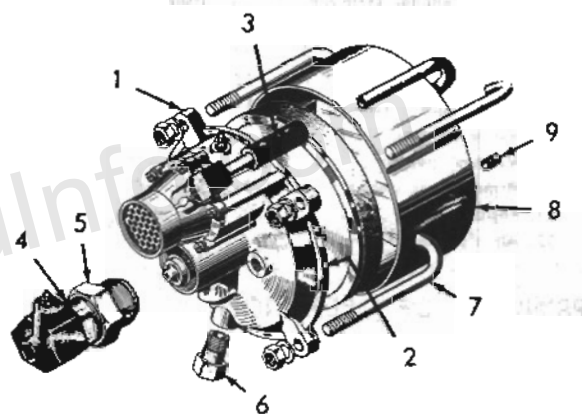
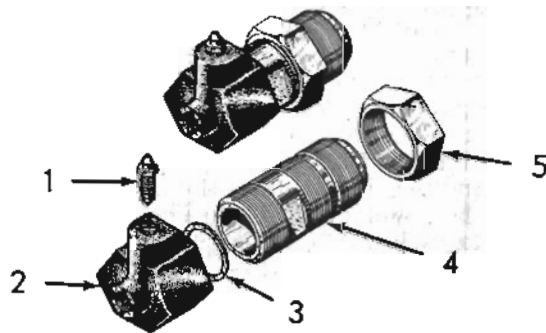
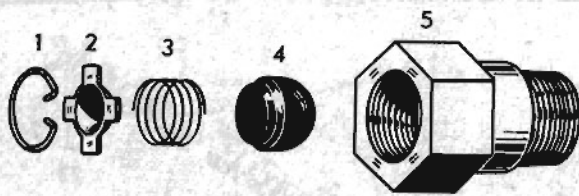

FIG. 30
FIG. 31
FIG. 32
**Hydraulic Cylinder**—Loosen the lock nut (5, Fig. 30) and unscrew the hydraulic cylinder (4) from the end plate (1). Hold the end cap (2, Fig. 31) in a vise and, using an open-end wrench on the flat part of the cylinder (4), unscrew the hydraulic cylinder. Remove the gasket (3) and bleed screw (1) from the end cap. Remove the lock nut (5) from the cylinder.
**Vacuum Check Valve**—Remove the check valve (6, Fig. 30) from the end plate. With a small nose pliers remove the snap ring (1, Fig. 32). Then lift the spring retainer (2), spring (3), and ball (4) out of the valve body.
**Hydraulic Piston**—Scratch alignment marks on the cylinder shell (8, Fig. 30) and the end plate (1). Take out the hooks bolts (7) and remove the cylinder shell and gasket. If the shell sticks to the end plate, tap the shell with a fiber mallet to loosen.